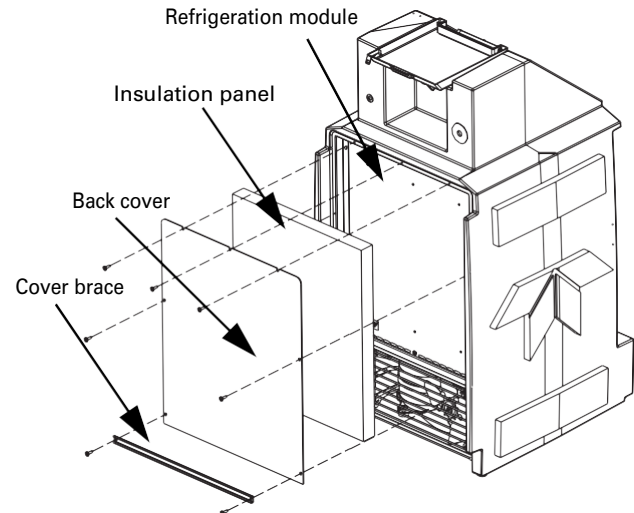

Figure 14: Open rear compartment
2. Remove the cover brace, back cover, and insulation panel (Figure 14).
24. Reinstall the cover brace, back cover, and insulation panel (Figure 14).